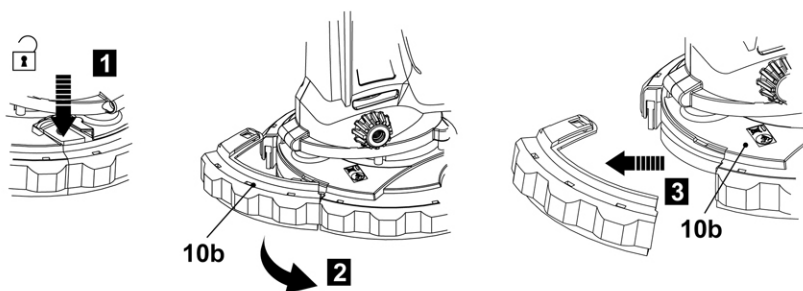

Fig. 9
- > Press the unlock button (10c) downward, hold it in position and remove the segment (10b) from the guard (10) (Fig. 9).